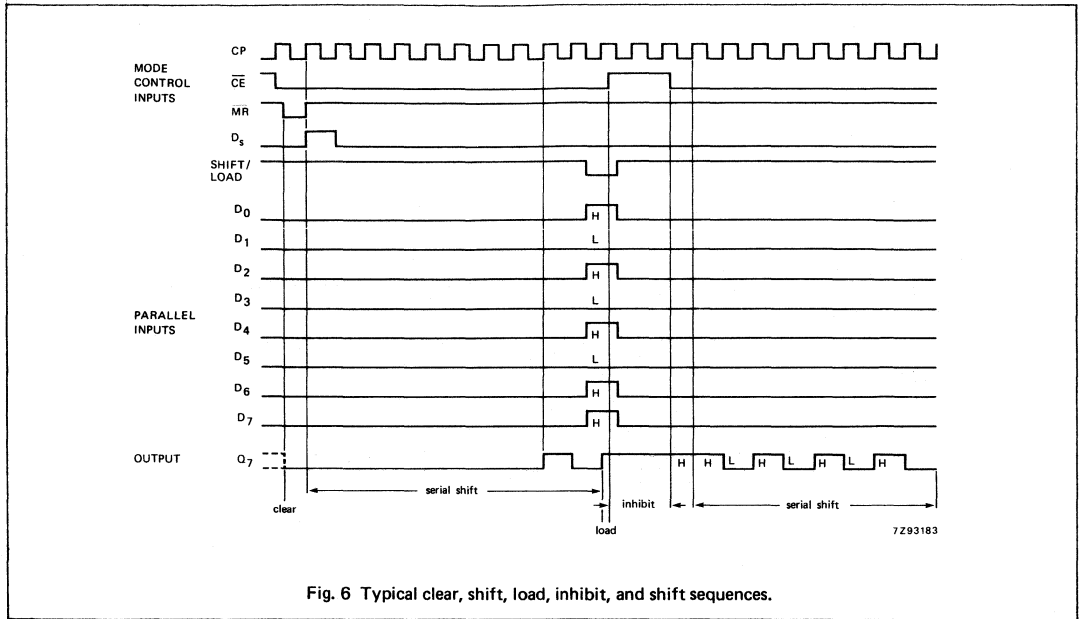

Fig. 6 Typical clear, shift, load, inhibit, and shift sequences.
Fig. 6 Waveforms showing the clock (CP) to output ( $Q_7$  or  $\bar{Q}_7$ ) propagation delays, the clock pulse width, the output transition times and the maximum clock frequency.
Note to Figs 6 and 7